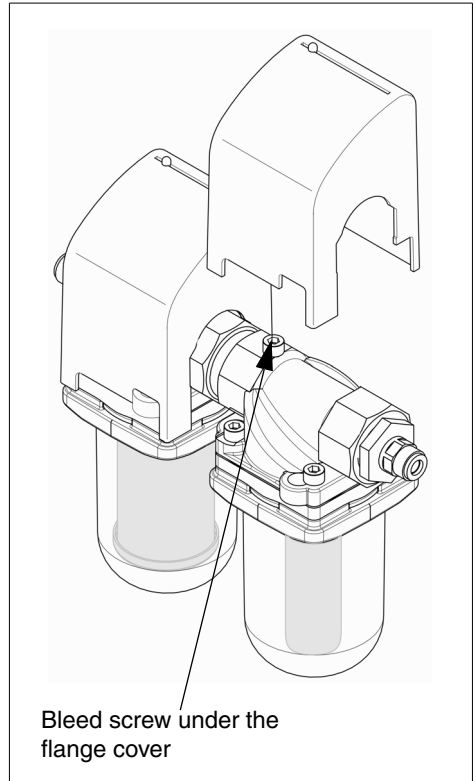

Fig. 7: Bleed screw
Open carefully the cold water line and the faucet so that the air can escape from the system. The microfiltration module must also be vented via the bleed screw. The bleed screw must be slightly unscrewed so that the air can escape. Retighten the bleed screw (see fig. 7).
- 3 Retighten the bleed screw once all the air has been evacuated (see fig. 7).